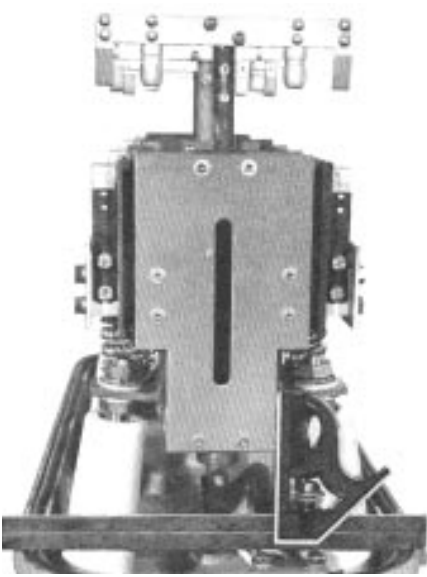

Figure 20.
- (1) Attach the load-carrying contact assembly to the support housing with the studs and internal tooth lockwashers removed in step 2B(4).
- (2) Reassemble the insulator, arcing contact assembly and spacer onto the studs and secure with the attaching hardware removed in step 2B(2).
- (3) Reconnect the resistor to the bracket.
- A. Using a combination square placed across the machined edges of the head casting, square the edge of the contact housing with the head casting as shown in Figure 20. obtain proper alignment by adjusting the *inner* hex nut.